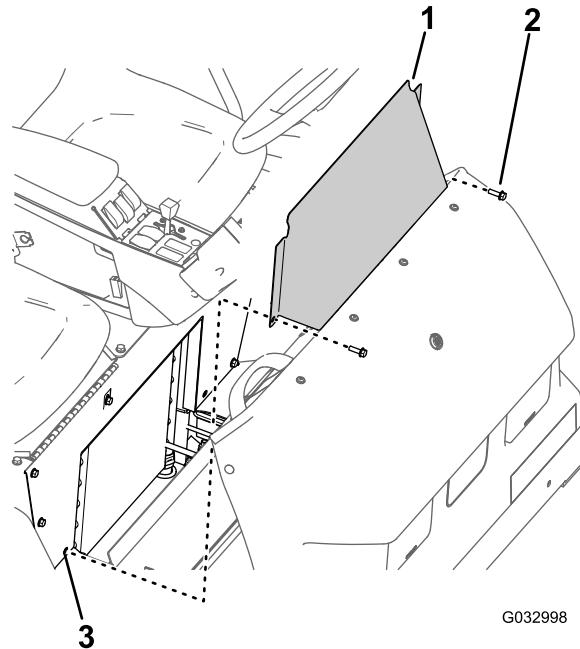

Figure 66
1. Remove the 2 flanged-head bolts that secure the seat-base-access panel to the seat base (Figure 66).
2. Remove the seat-base-access panel from the machine (Figure 66).
1. Align the holes in the seat-base-access panel with the holes in the seat base (Figure 66).
2. Assemble the seat-base-access panel to the seat base with the 2 flanged-head bolts (Figure 66) that you removed in step 1 of Removing the Seat-Base-Access Panel \(page 51\).